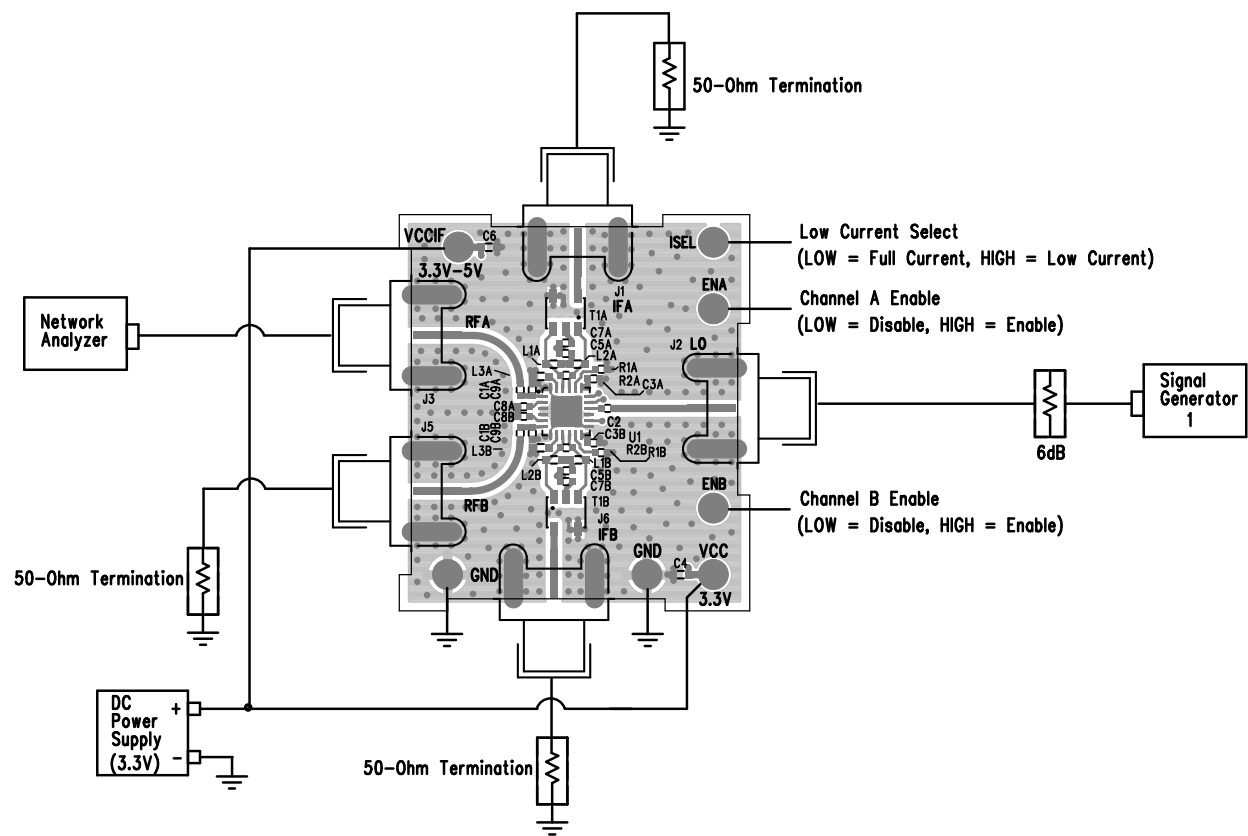
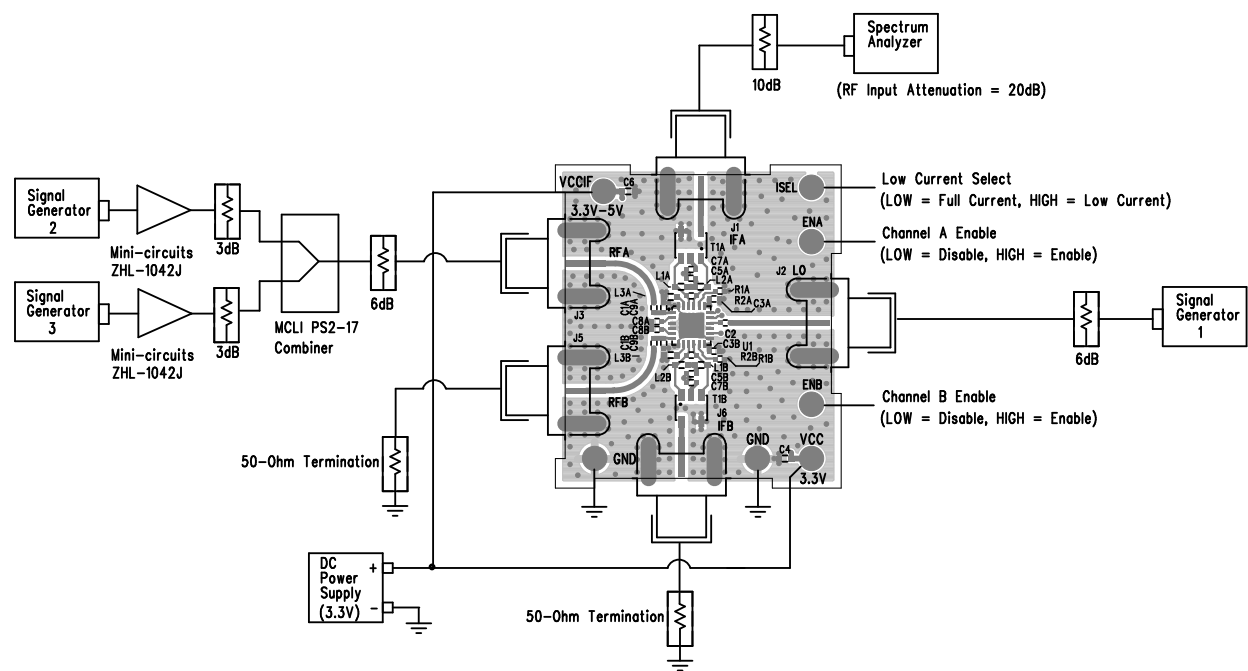
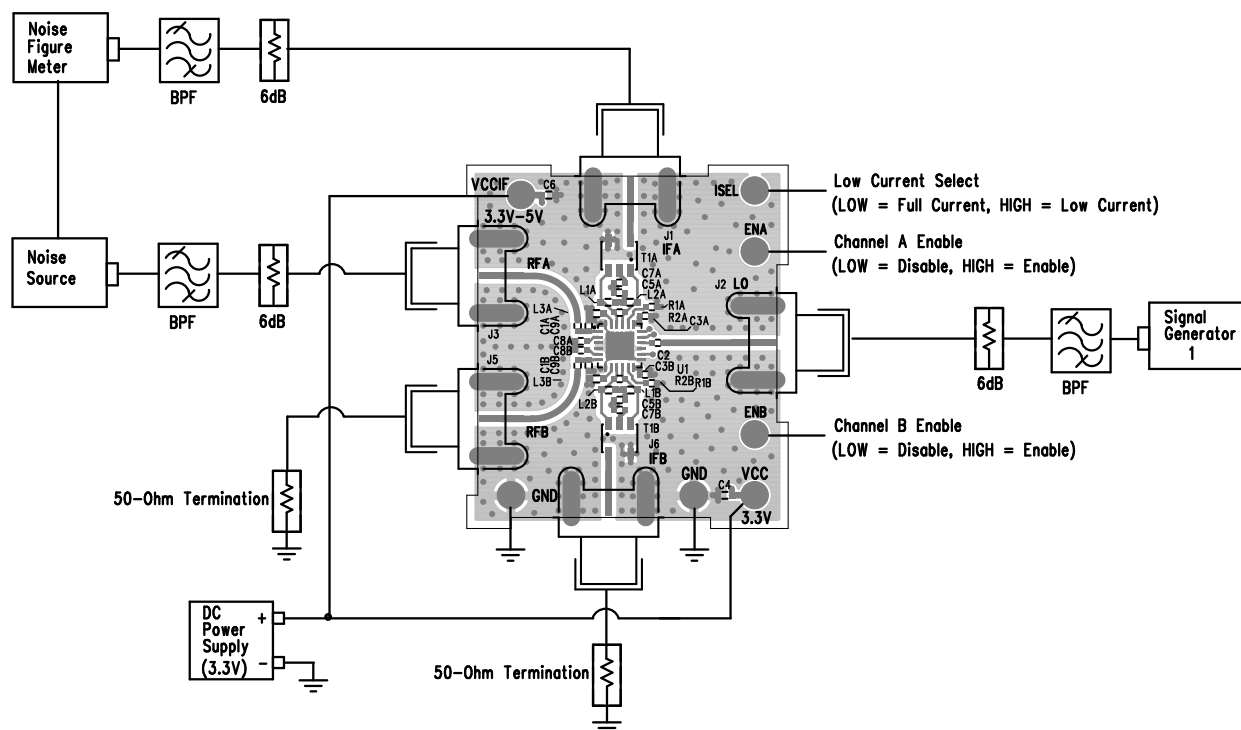

Figure 5. Proper Equipment Setup for Return Loss Measurements
Figure 6. Proper Equipment Setup for RF Performance Measurements
Figure 7. Proper Equipment Setup for Noise Figure Measurement
The LTC5592 is a dual high dynamic range downconverting mixer IC with very high input 3rd order intercept. Accuracy of its performance measurement is highly dependent on equipment setup and measurement technique. The recommended measurement setups are presented in Figure 5, Figure 6, and Figure 7. The following precautions should be observed:
The LTC5592 consists of high linearity passive double-balanced mixer cores and IF buffer amplifiers. Due to the bidirectional nature of all passive mixers the $\text{LO} \pm \text{IF}$ mixing products, also referred to as pseudo-image spurs, are always present at the RF input, typically at a level 12dB below the RF input signal. Mismatched impedances at the pseudo-image spur frequencies, such as when filters are used for SSB NF measurements, can significantly impact the linearity and noise figure measurements. To avoid interference from the pseudo-image spurs, terminate the RF input port with an isolator, diplexer, or attenuator. In the recommended measurement setups presented in Figure 6 and Figure 7, the 6dB attenuator pad at the demonstration circuit's RF input serves this purpose.
Demonstration circuit 1710A-C is easy to set up to evaluate the performance of the LTC5592. Refer to Figure 5, Figure 6, and Figure 7 for proper equipment connections. The following procedures describe performing measurements on Mixer Channel A. The measurement procedures for Mixer Channel B are identical.
3. Connect all test equipment as shown in Figure 5 with the signal generator and the DC power supply turned off.
1. Connect all test equipment as shown in Figure 6 with the signal generators and the DC power supply turned off.
2. Connect all test equipment as shown in Figure 7 with the signal generator and the DC power supply turned off.